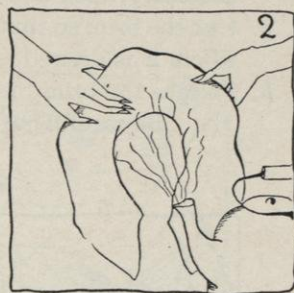

FIG. 2.
- e. Soften felt very well in steam before placing it on your brim block. This will make it stretch more evenly and prevents tearing (see Figure 2).